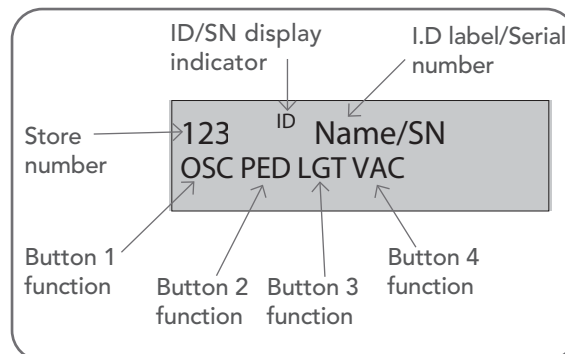

Fig 10.1
DCB-05V2 can store up to thirty (30) transmitters in its memory. Each transmitter can be allocated an alpha-numeric ID label up to eleven (11) characters in length and each button can be assigned to one of several control functions. The settings for a transmitter are represented in (Fig. 10.1). It shows the transmitter's store number, ID label or serial number and the functions assigned to each of its four buttons. To toggle between ID/SN display, press UP/DOWN with the cursor on the ID/SN indicator. The procedures below code, delete, replace, edit and copy transmitter records.